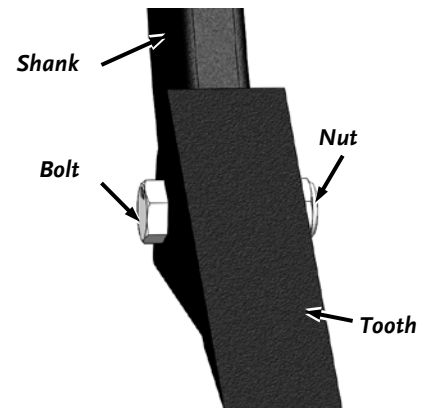

Figure 14
2. Remove the M10 Bolt and Nut that hold the Tooth to the Shank, using two 16mm Wrenches (**Figure 14**).